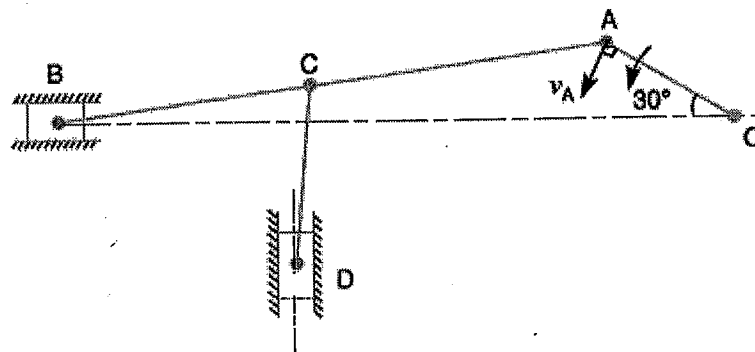

Fig.Q04
4. In the mechanism, as shown in Fig.Q04, the crank OA rotates at 20 r.p.m. anticlockwise and gives motion to the sliding blocks B and D. The dimensions of the various links are OA = 300 mm; AB = 1200 mm; BC = 450 mm and CD = 450 mm. For the given configuration,